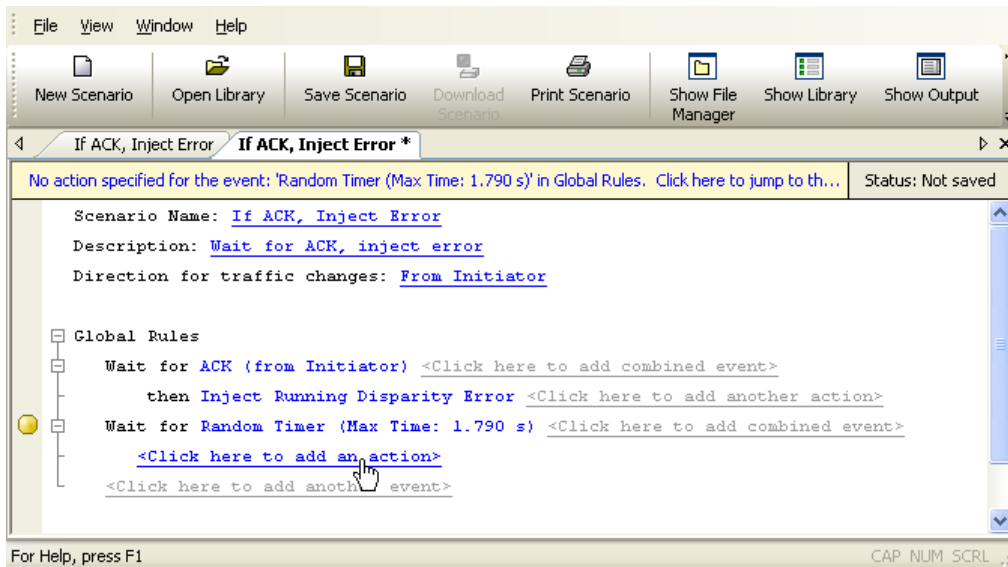

Figure 5.33 Example 6: Entering Second Action
- Step 6** Click on the prompt to **add an action** to correspond with the second event (Figure 5.33).